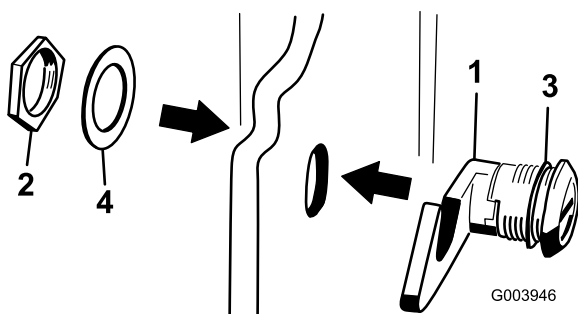

Figure 5
3. Remove the nut from the hood latch assembly (Figure 5).
4. Outside the hood, insert the hook end of the latch through the hole in the hood and make sure that the rubber-sealing washer remains to the outer side of the hood (Figure 5).